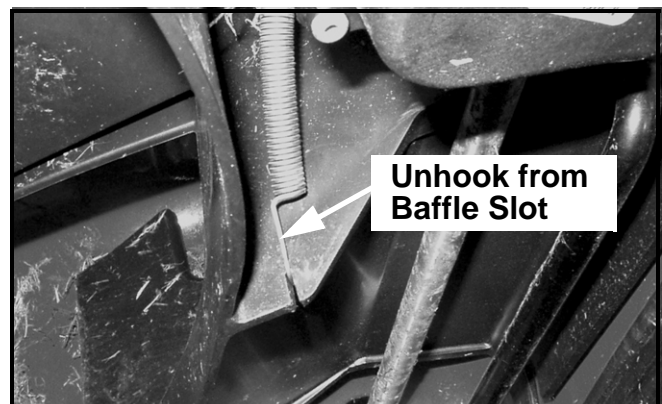

FIGURE 2
8. Disconnect the transmission return spring from the baffle slot. See Figure 2.